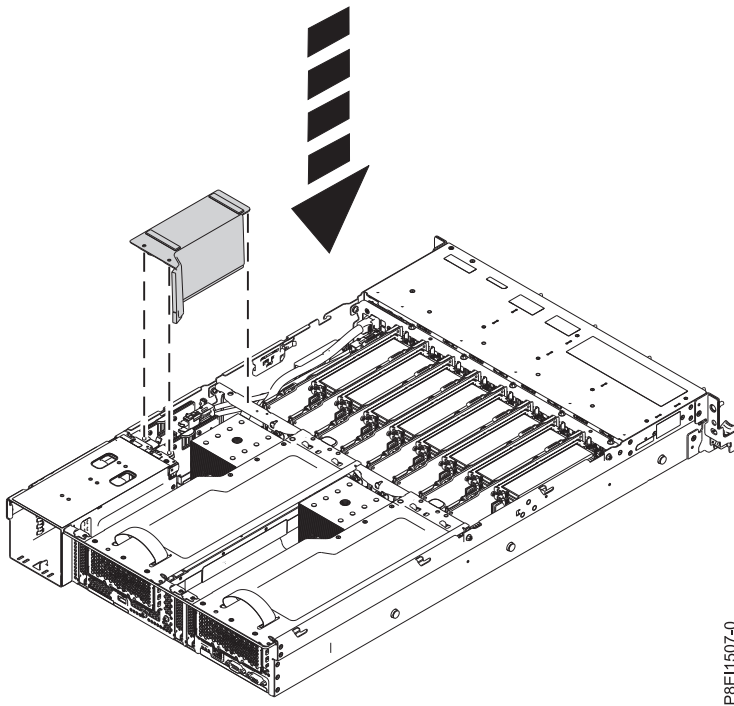

Figure 119. Installing the power riser air baffle
8. Install the power riser air baffle. See Figure 119 on page 110. Ensure that the holes in the baffle align with the pins on the system.